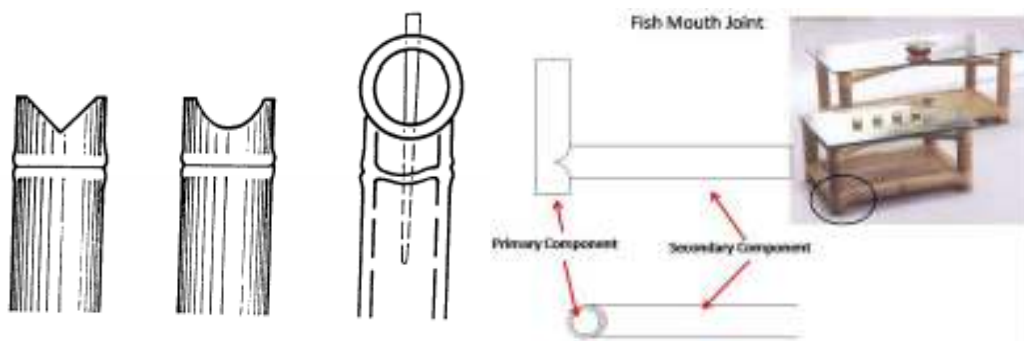

Figure 7 Fish mouth
- The internal joint partition and outer flannel of tube must be kept undamaged. Cut out a V size end; mend it into a U size end with a pointed knife like a fish mouth (Figure 7).